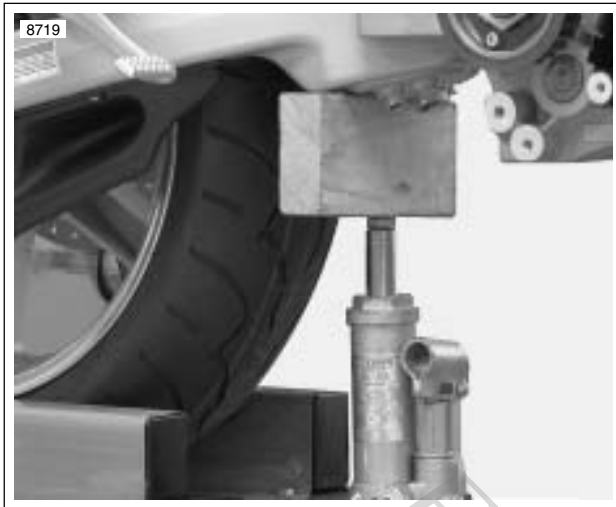

Figure 3-38. Supporting the Swingarm
1. See Figure 3-38. Install bottle jack and wooden block under swingarm/oil tank to the rear of the oil line fittings.